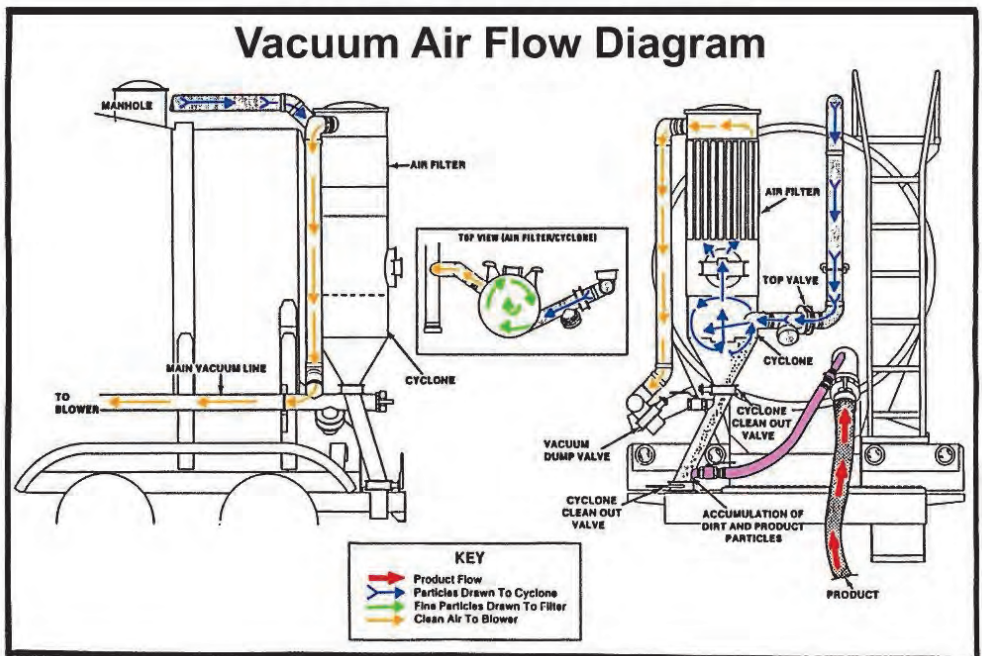

Figure 4. Vacuum Operation
The Heil Tube Dust Collection System is displayed in Figure 4. Contaminated air is brought in through the bottom of the filter assembly from the top of the tank. The air flows through porous plastic tubes with millions of tiny holes which allows clean air to escape through the top of the filter tube assembly. As the clean air is directed back to the blower, the bottom of the filter tube assembly fills with residual particles. They can be emptied through an eductor system that will funnel them into a collection line by means of gravity and a two valve system that allows gravity cleaning without shutting down the blower. The systems will let the operator know when it needs cleaning by raising the back pressure on the blower. When this happens, the tubes can be cleaned with high pressure. There is no need to replace the tubes unless they are damaged in some way.
4. Identify all valves and their location from Figure 4.